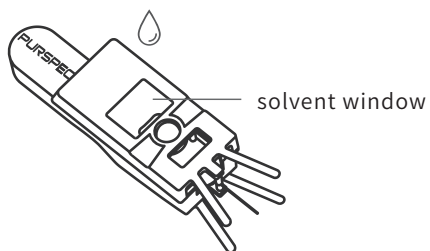

Figure 3.3 Calibration Cartridge
1. Use the calibration cartridge, as shown in Figure 3.3. Add 4-5 drops (about 150 $\mu$  L) of calibration reagent/solution to the solvent window, and insert the cartridge into the MS inlet in the front of the instrument.